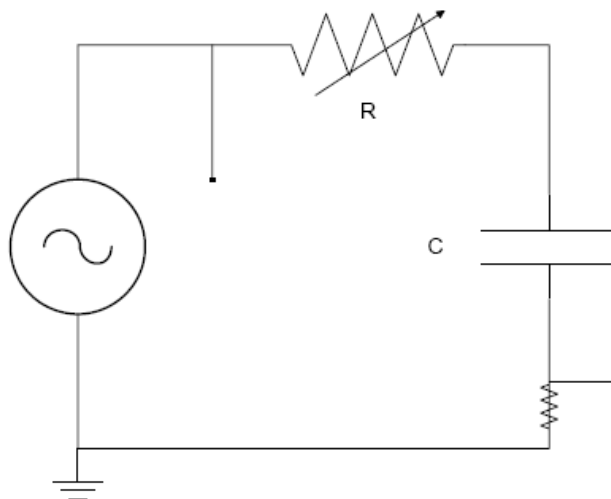

Fig. 1. The experimental RC circuit. $C = 1 \mu\text{F}$.
1. Construct the circuit of Figure 1. Set the signal generator to the sinusoidal mode. Set the frequency to 1K Hz and the amplitude to 10 Vpp.